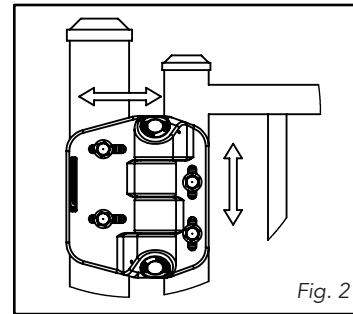
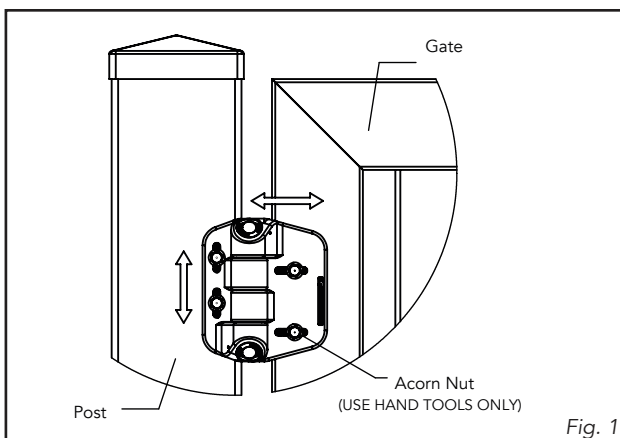

Fig. 2
Fig. 1
1. First, choose the desired direction of mounting. Applications using larger post and gate frames should mount the hinge so that the vertical adjustment is on the fence post and the horizontal adjustment is on the gate frame (Fig. 1). Applications with smaller gate frames (1.5" - 2") should mount the hinge so that the vertical adjustment is on the gate frame and the horizontal adjustment is on the post (Fig. 2).